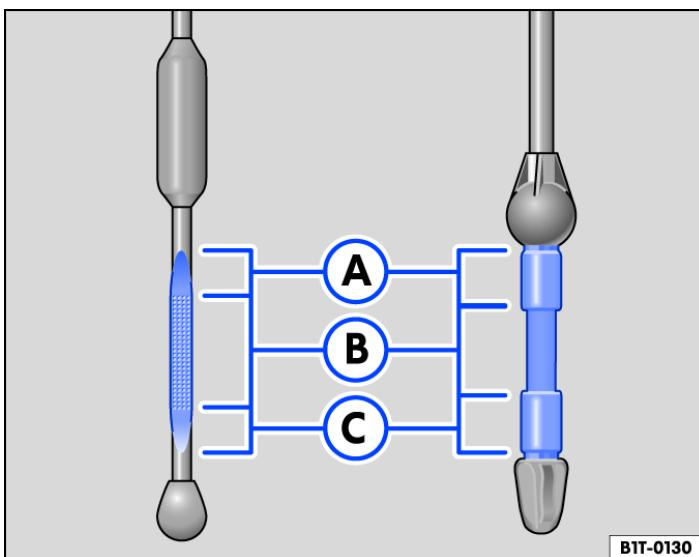
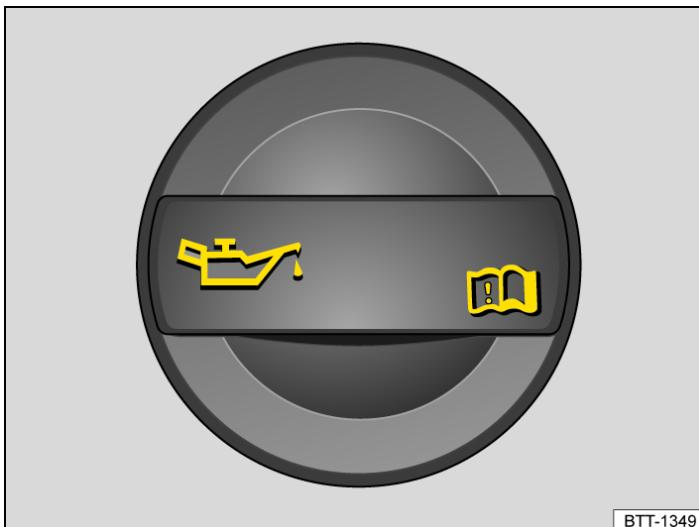

Fig. 1 Oil dipsticks with markings (variants).
Fig. 2 In the engine compartment: engine oil filler cap (illustration).
### Key to Fig. 1:
4. Identify the engine oil filler cap and oil dipstick. The engine oil filler opening can be recognised by the symbol  on the cap and the oil dipstick has a coloured handle → Fig. 2. If you cannot find the cap and oil dipstick, please contact a qualified workshop.
7. Pull out the oil dipstick again and read the engine oil level on the dipstick as follows → *Fig. 1*:
- (A) Do not fill engine oil → ①. Continue with step 16.
- (B) Engine oil level OK. The engine oil may be filled up to the upper limit of this area, for instance, if the engine is subjected to high loads. Continue with step 8 or 16.
- (C) Engine oil level too low. It is essential to fill engine oil. Continue with step 8.
9. Unscrew the engine oil filler opening cap → *Fig. 2*.
12. Read the engine oil level from the dipstick again before refilling with a further small quantity of engine oil. Never overfill with engine oil → ①.